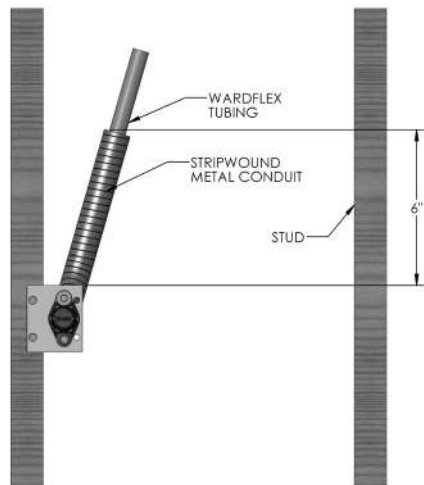

FIGURE 4.12
- B. Stripwound conduit shall also be used to shield tubing from puncture threats when WARDFlex® is installed in a concealed location where it cannot be displaced a minimum 3" from a potential puncture threat or the distance between supports is less than 24 inches. See Figure 4.12.